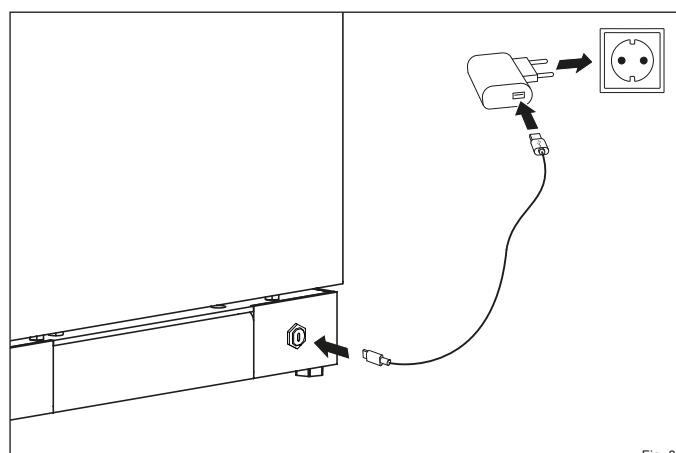

Fig. 8
- ▶ **Connect the USB-C cable to the socket on the stove and the mains plug (Figure 8).**
- ▶ **Connect the mains plug to the mains (Figure 8).**